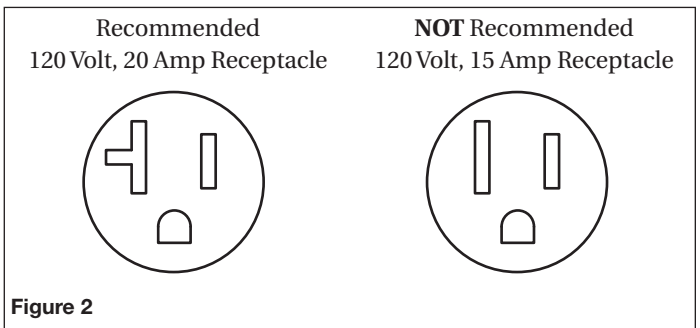

Figure 2
NOTE: Many buildings and homes are equipped with 15 and 20 Amp Branch Circuits. The recommended circuit for operating this Plasma Cutter is a dedicated 20 Amp Branch Circuit. Check the wall receptacle for a 20 Amp receptacle like the one shown in Figure 2 and check the circuit box to verify the receptacle is on a 20 Amp breaker. It is important that no other electrical devices are concurrently powered by the same Branch Circuit. Operating this unit on a 15 Amp branch circuit may result in a tripped breaker.
- ◆ Verify the work clamp is properly connected to the workpiece at a location close to the cutting path. The work clamp must be connected to bare metal in an area free of rust, paint, or other non-conductive substances. See Figure 2.